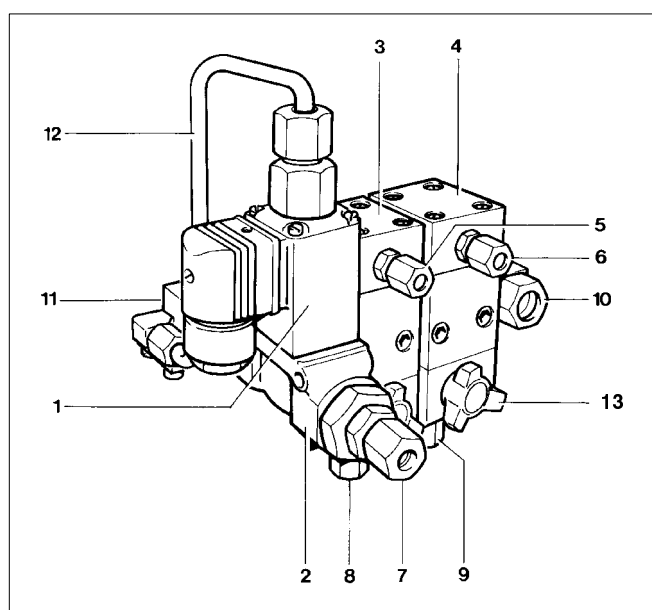

Fig. 30 Automatic condensate drain unit MP, K14, K15
The following description is for 4stage units. For the three-stage MP units, drain valve (3, Fig. 30) is for the oil and water separator after last stage and drain valve (4) does not exist.
The automatic condensate drain unit (Fig. 30) drains the intermediate separator(s) and the oil and water separator after the 3rd stage every 15 minutes during operation. In addition, the automatic condensate drain is designed to drain these filters after shut-down of the compressor unit, and to unload the compressor during the starting phase.